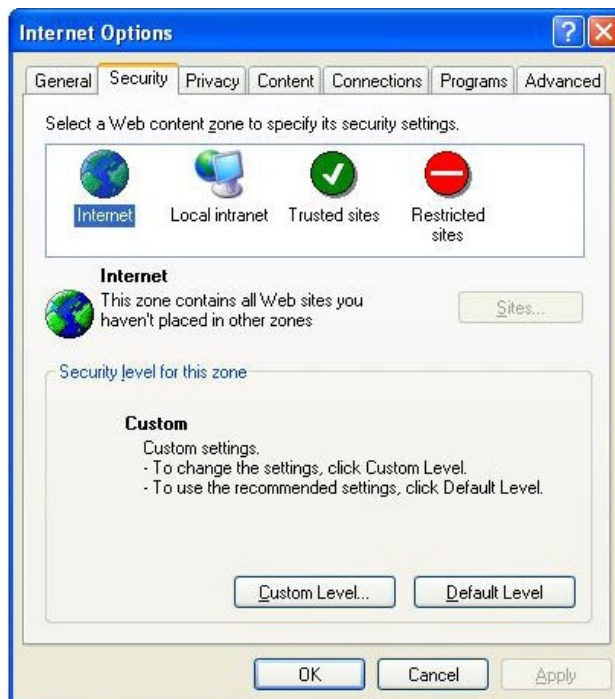

Fig. 3-1
- (1) Open the IE browser to choose the “Internet option” in the “Tool” menu.
- (2) Choose the “Security” label in the appeared dialogue box. (Fig. 3-1)